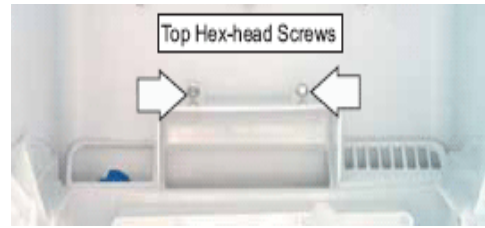

Fig. 1
10. Remove the 4 hex-head screws that hold the evaporator fan shroud in place (Fig. 1 and Fig. 2).